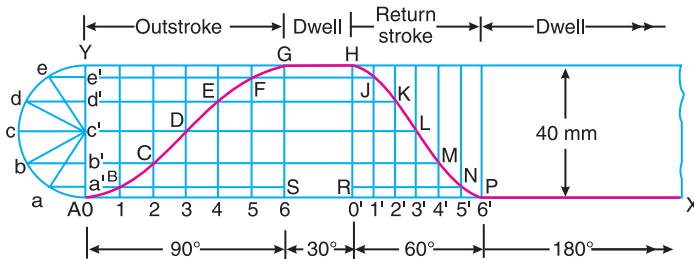

Fig. 20.13
First of all, the displacement diagram, as shown in Fig 20.13, is drawn as discussed in the following steps :
- Draw vertical line $AY = 40$ mm to represent the cam lift or stroke of the follower and complete the rectangle as shown in Fig. 20.13.
- Join the points $A, B, C ...$ etc. with a smooth curve as shown in Fig. 20.13. This is the required displacement diagram.